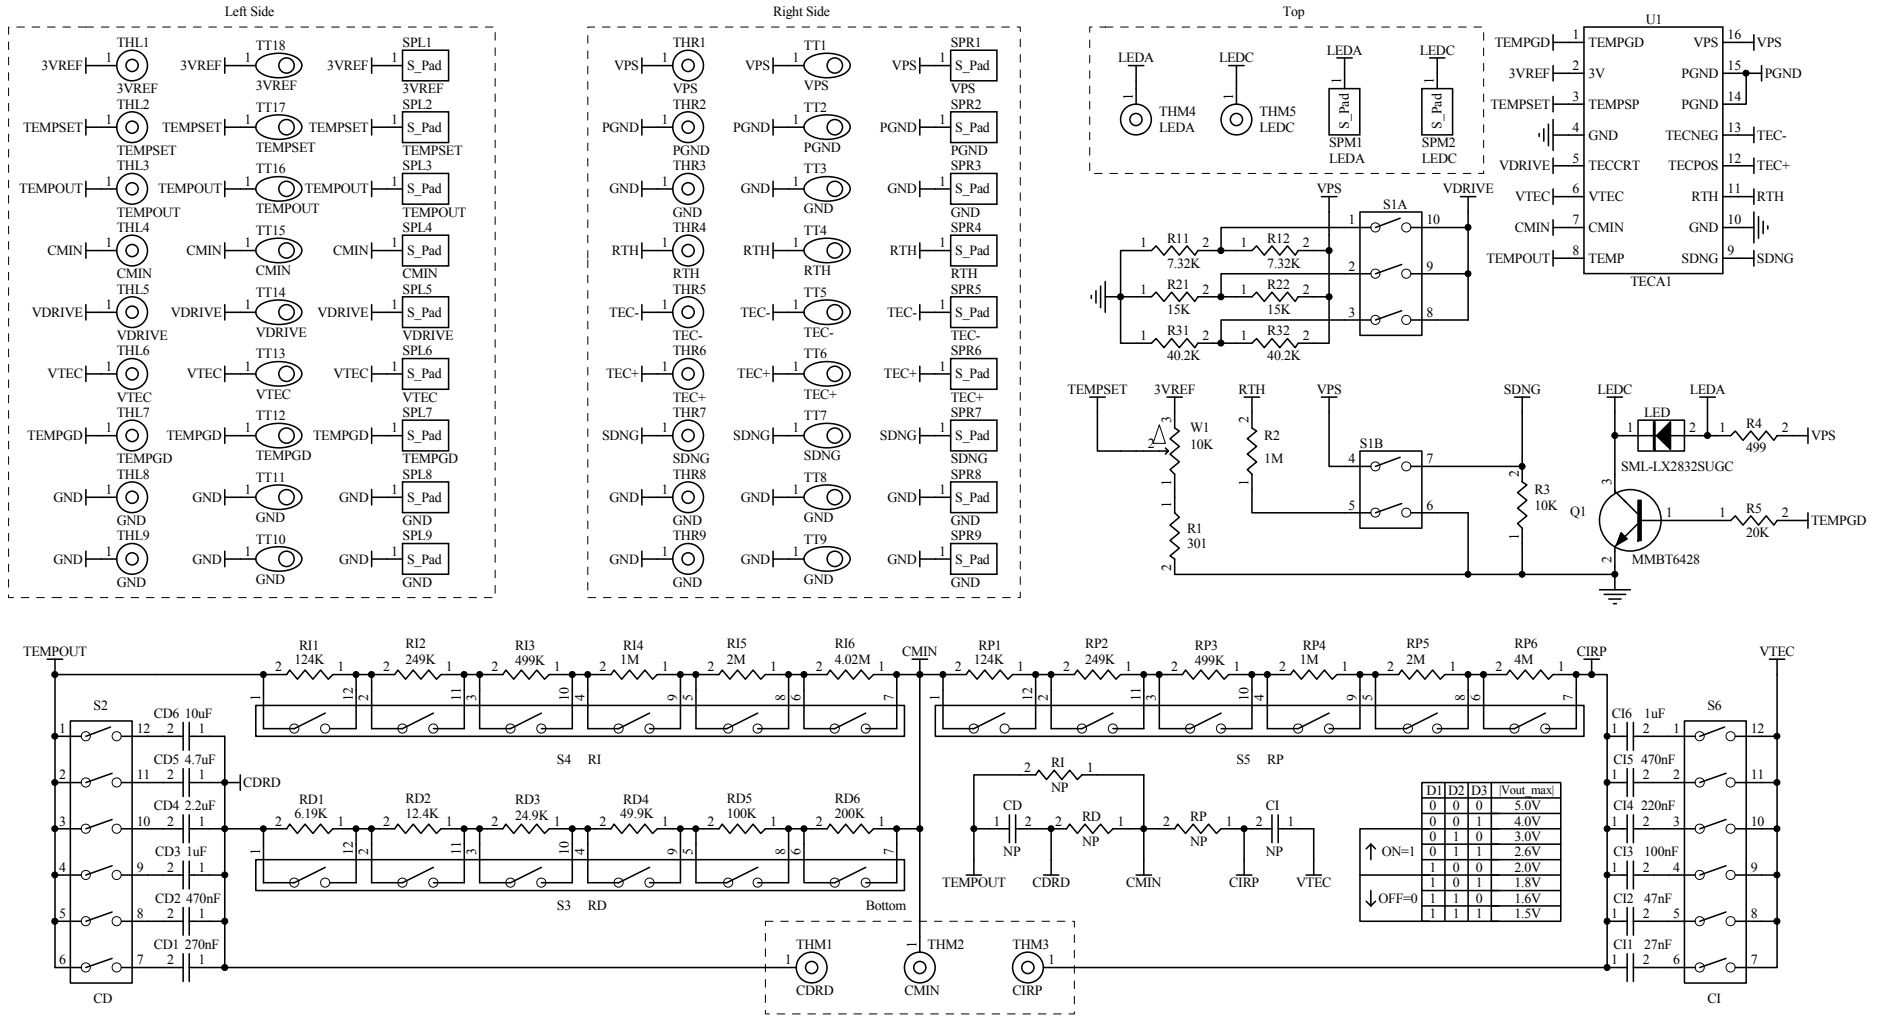

Figure 7. Schematic of TEC Controller Evaluation Board TECEV104
The schematic is shown in Figure 7.
h. The evaluation schematic is given in Figure 7.